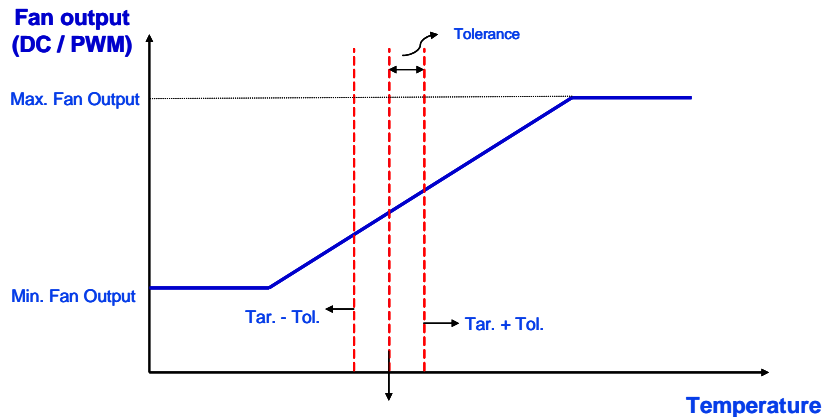

Figure 9
- (1) Set the target temperature, the temperature tolerance, maximum and minimum fan outputs and steps first.
- (2) Figure 9 shows the initial conditions. If the current temperature is within (Target Temperature ± Temperature Tolerance), the fan speed remains constant.